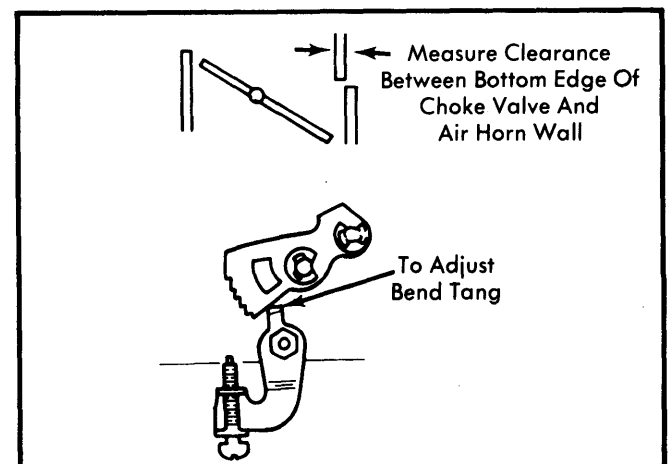

Fig. 8 Choke Unloader Adjustment
2) To adjust, bend metal tang on fast idle speed lever attached to throttle shaft. See Fig. 8. Make sure tang does not touch edge of cam to avoid wide open throttle sticking condition. Rotate throttle lever several times to check for any binding during unloader operation.